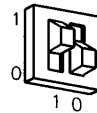

Figure 5-16.
- b. If using HP-UX, set these switches to interrupt level 5 by setting switch 0 to 0 and switch 1 to 1. The switches will look like the one in Figure 5-16: